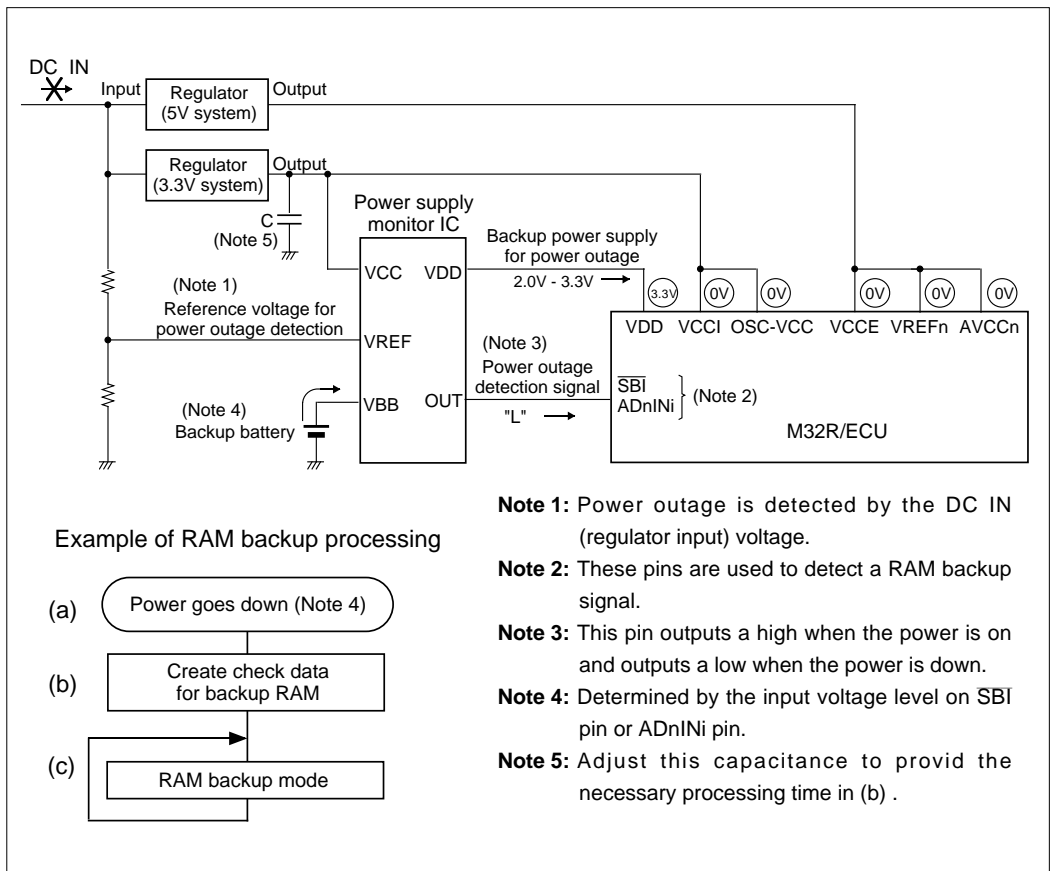

Figure 17.2.3 RAM Backup State at Power Outage
Shown in Figure 17.2.3 is the power outage RAM backup state of the M32R/ECU. When the power supply goes down, the power supply monitor IC starts feeding current from the backup battery to the M32R/ECU. Also, the power supply monitor IC's power outage detection pin outputs a low, causing the $\overline{\text{SBI}}$ pin or ADnINi pin input to go low, which generates a RAM backup signal ((a) in Figure 17.2.3). Whether the power is down or not must be determined with respect to the DC IN (regulator input) voltage in order to allow for a software processing time at power outage.
- (1) Create check data to verify after returning from RAM backup to normal mode whether the RAM data has been retained normally ((b) in Figure 17.2.3).
When the power supply to VCC goes down after settings in (1), the voltage applied to the VDD pin becomes 2.0-3.3 V and voltages applied to all other pins drop to 0 V, and the M32R/ECU thereby enters RAM backup mode ((c) in Figure 17.2.3).
Due to settings in (1) to (3), the voltage applied to the VDD pin becomes $3.3\text{ V} \pm 10\%$ and voltages applied to all other pins drop to 0 V, thus placing the M32R/ECU in RAM backup mode ((d) in Figure 17.2.3).